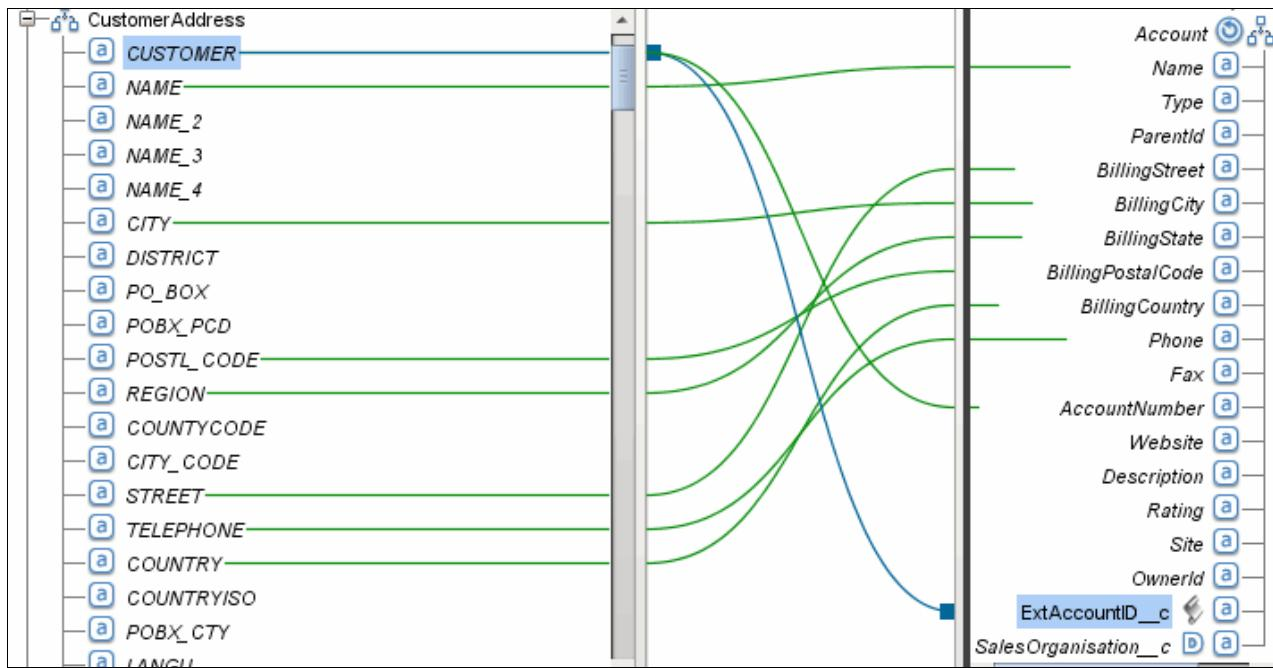

Figure 10-23 TIP wizard final SAP to Salesforce.com mapping
- Click **OK**, and then right-click the Concatenate function symbol (**&**), and select **Apply Function Graph**. The mapping now looks as shown in Figure 10-23.